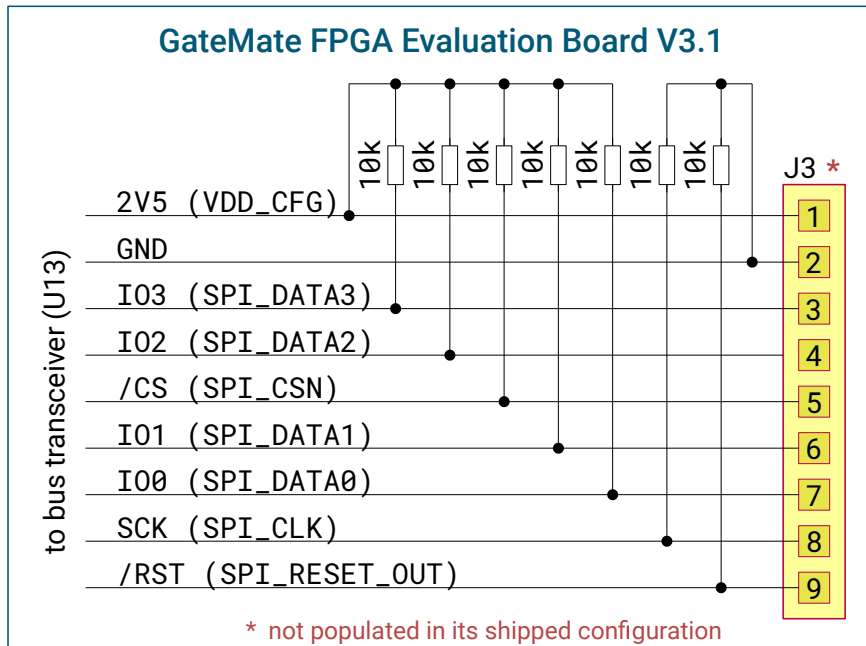

Figure 3.8: Optional SPI interface connector J3
The SPI bus can be accessed from any user device. For this, connector J3 (2.54 mm pin pitch, 9 pins) has to be populated. Figure 3.8 shows the pin assignment of the SPI connector.
- An external SPI device can feed a reset signal to the FPGA via the SPI connector J3 pin 9 (see Figure 3.8).